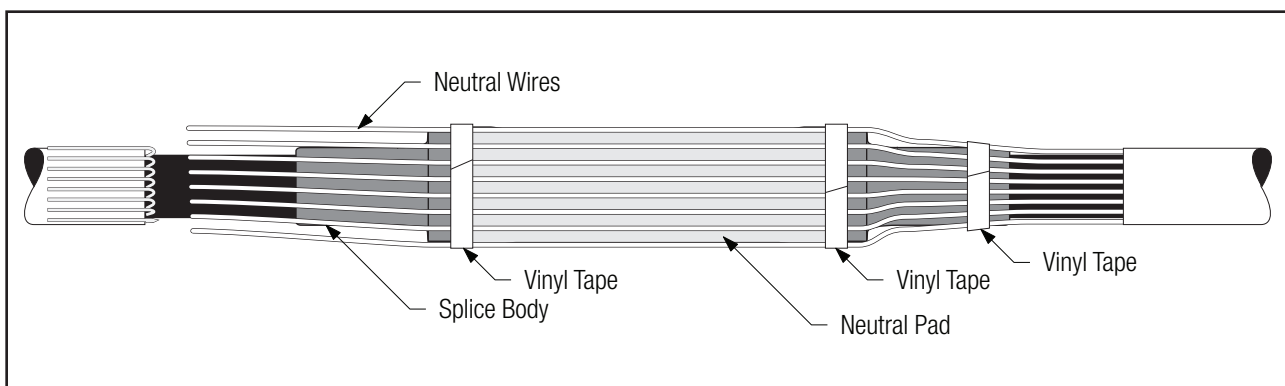

Figure 19
5.2.1 Center neutral pad on splice body. Route neutrals either straight or concentrically around splice body and secure using vinyl tape (Figure 19).